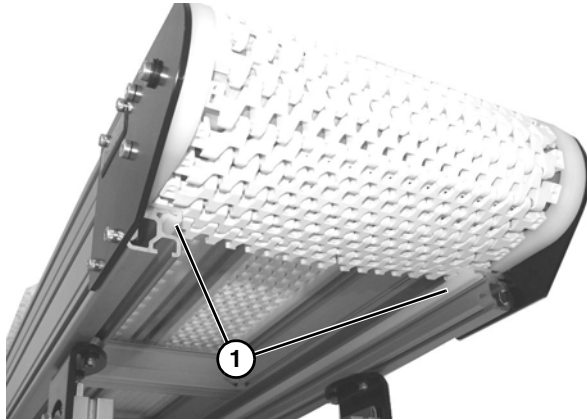

Figure 14
3. Install belt around lower frame section and above lower wear strips (Figure 14, item 1).